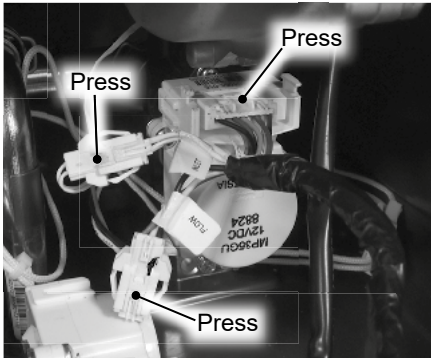

Figure 4 - Locating wiring harnesses
16 Locate the flow control valve at the bottom right side of the water heater as shown in Figure 4. Disconnect the three (3) wiring harnesses from the valve marked:
To disconnect the "Inlet" and "Flow" connections, use a pair of needle nose pliers to gently press down on the connector tab while pulling connections apart. See Figure 4.
22 Reconnect the three (3) wiring harnesses to the flow control valve previously disconnected in **Step 16**. Confirm wiring connections are secure. See Figure 4.